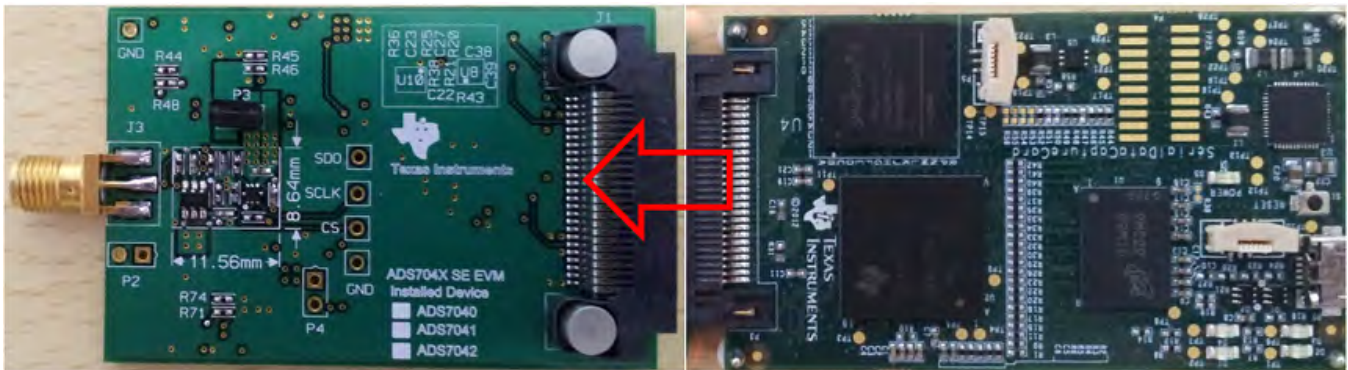

Figure 5. Connecting ADS7040EVM Board to Simple Capture Card
- Step 4. Connect the ADS7040EVM board to the Simple Capture Card as Figure 5 illustrates.